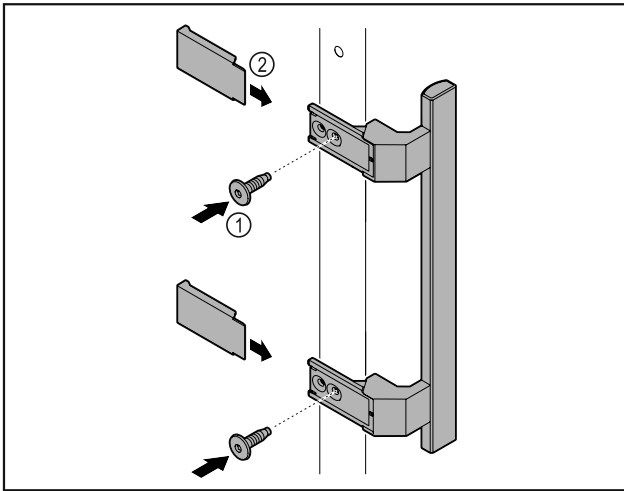

Fig. 58
- ▶ Attach handle from accessory kit to the door using supplied screws Fig. 58 (1).
- ▶ Put on cover Fig. 58 (2).